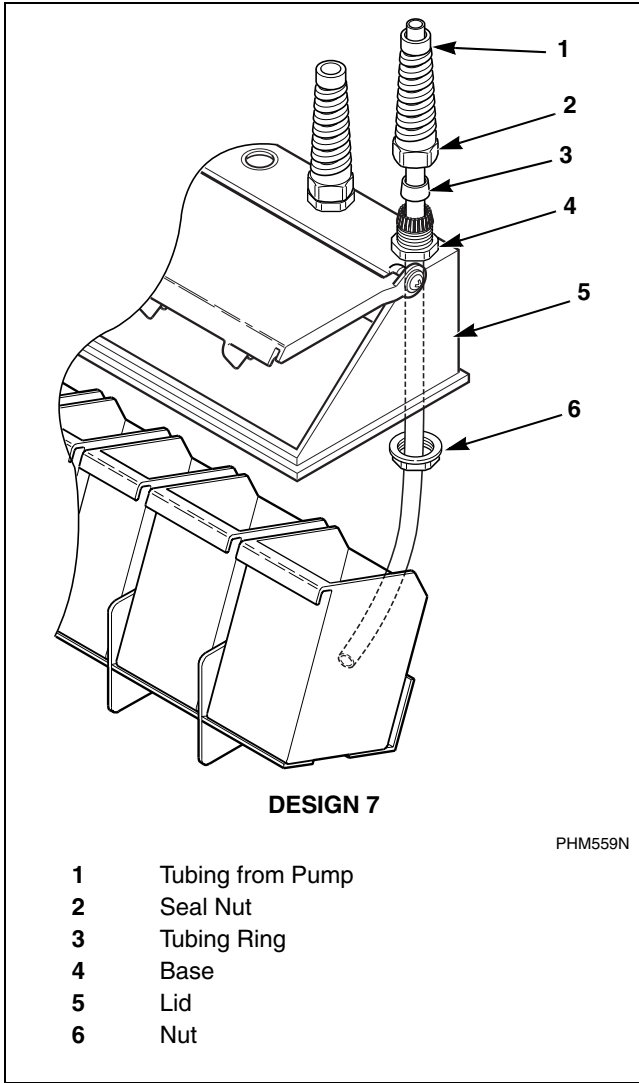

Figure 15
1. Remove plugs from base. Refer to *Figure 15*. Plugs are assembled inside the tubing ring.